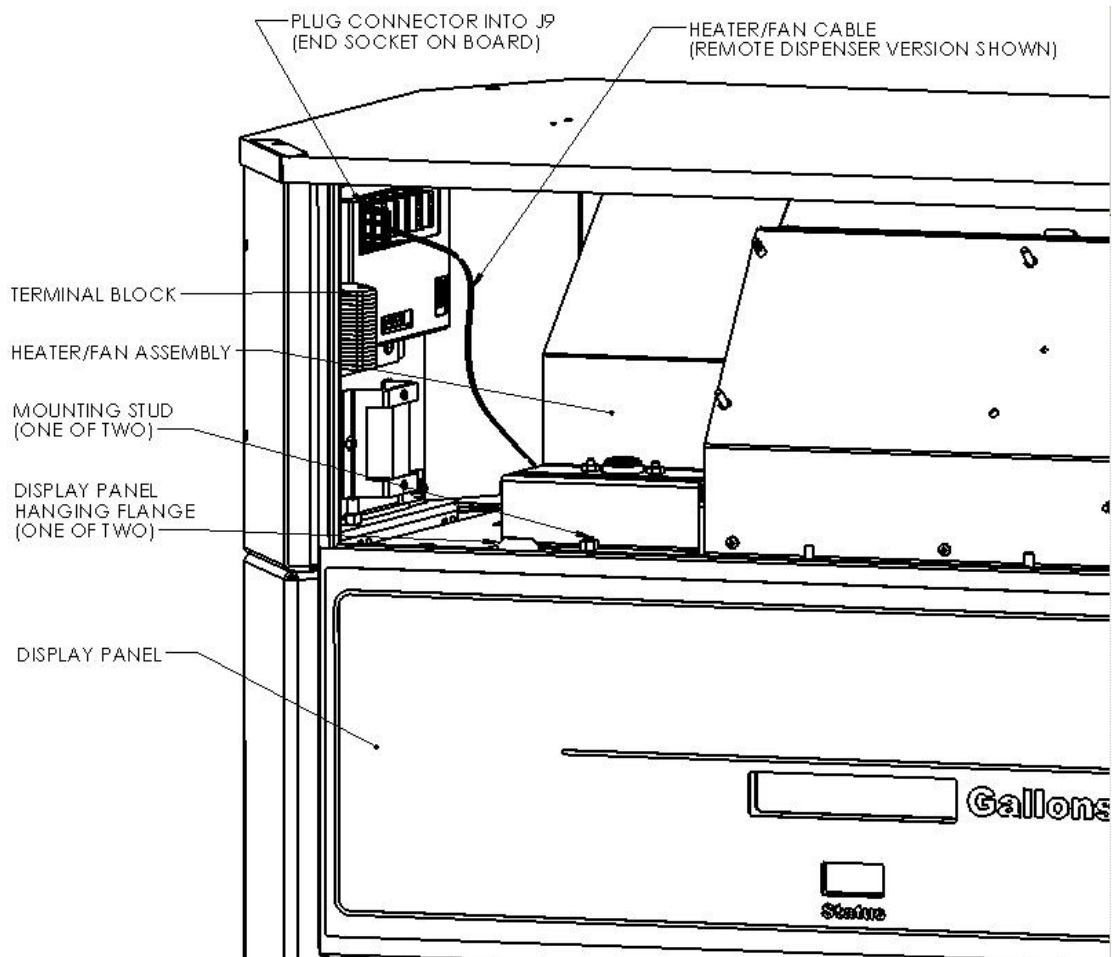
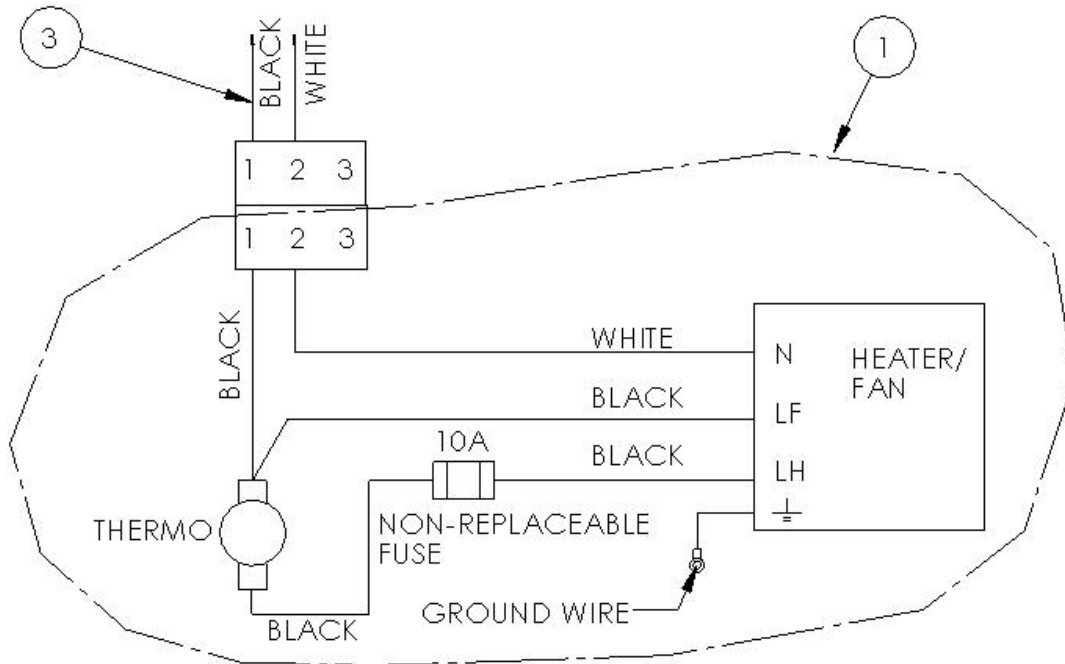

FIGURE 2
FIGURE 3
Unscrew the 2 screws located beneath the front display panel with a Phillips screw driver. Remove front panel and carefully hang the panel by placing the slot in the top flange of the panel onto the tabs of the dispenser's display opening. Refer to Figure 2.
Insert the Heater/Fan Assembly into the dispenser electronics head. Place the assembly onto the studs to the left of the PC board and to the right of the relays. Fasten the assembly to the dispenser with the 2 M6 hex nuts (item#2). Use a M6 nut driver to tighten the nuts. Refer to Figure 2.
Plug the Heater/Fan assembly's white cable housing into the relay socket in the J9 position for Remote Dispensers. Refer to Figure 2. If the assembly is being installed into a Suction Pump Dispenser, insert Black Wire of the 892264-001 Cable Assembly (item 3) into Position P of the Terminal Block Assembly and insert White Wire into Position N of the Terminal Block Assembly. See Figure 2 for terminal block position. Fasten wires to terminal block using a flat blade screwdriver. See figures 3, 4, 5 and 6 on the following pages.